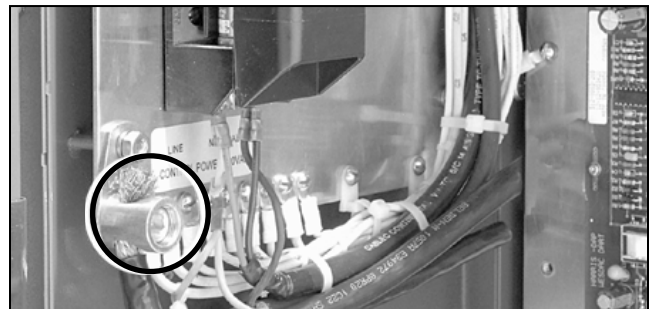

Figure 94. The copper lug and the fuse block.
- (g) Connect the heavy shielded cable to the copper lug on the low-voltage enclosure grounding plate. See Figure 94.
To connect external control power, connect the line and neutral to the fuse block. See the label under the fuse block. See Figure 94.